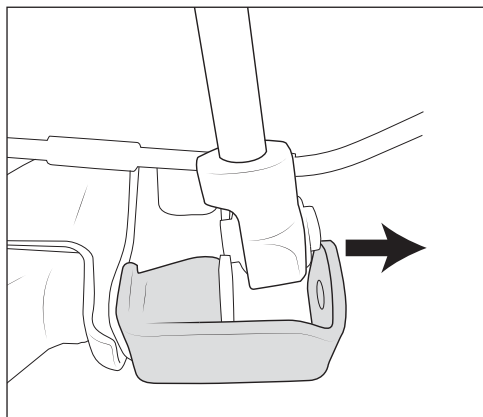

Figure 2: Rear View
2. Install lower outboarding bracket. Parts are sided and must be installed on the correct side. Small mounting slot should be at the bottom with the open end pointing toward front of vehicle (fig. 2).